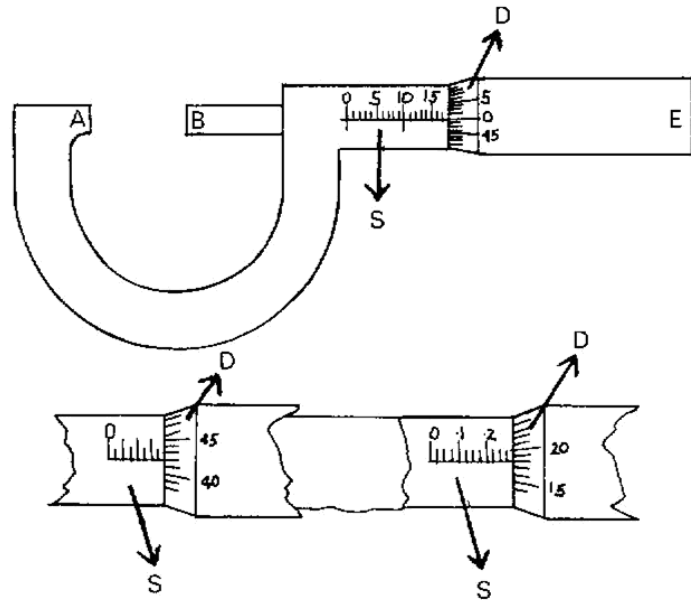

Figure 3
One jaw A (Fig. 3) is fixed, and the jaw B is on a screw thread. The scale S is graduated in millimeters, and round the rim D is a scale divided into 50 or 100 equal divisions. This scale turns as the screw head is turned by means of the knob E. When the screw head is rotated the jaw B advances and there is a gap between the jaws A and B. This gap is measured on the horizontal scale. The distance between the jaws A and B for one complete turn of the screw head is called the PITCH of the screw. When the jaws are closed, the 0 (zero) mark on the rim scale (D) coincides with 0 (zero mm) mark on the horizontal scale S.